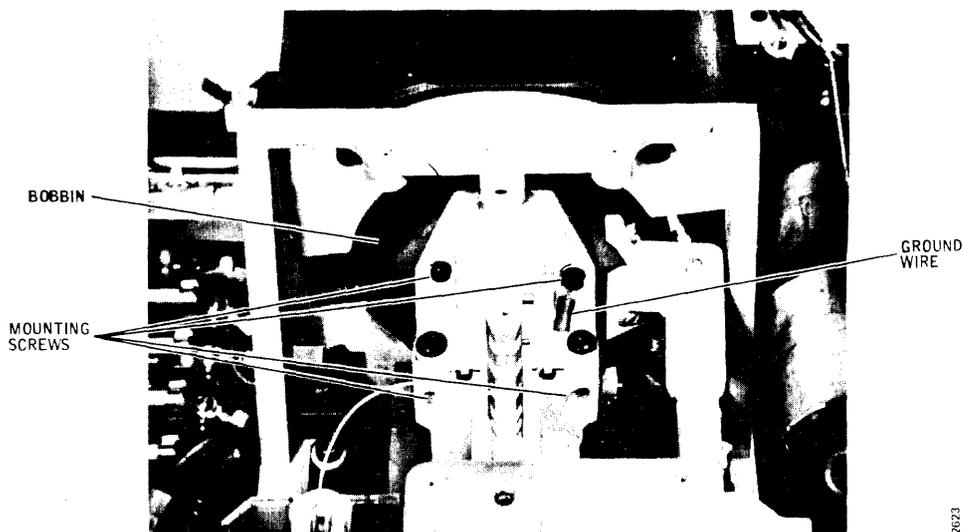

Figure 3-30. Bobbin Mounting Screw Locations
6. Note the location of the ground wire, and remove the four screws that hold the bobbin to the T-block. See Figure 3-30. When reinstalling the bobbin, make sure the ground wire is reconnected, and perform the Motor Bobbin Alignment procedure.
8. Remove the four screws (Figure 3-30) that attach the carriage to the linear motor bobbin. Note the position of the grounding wire for later reassembly.